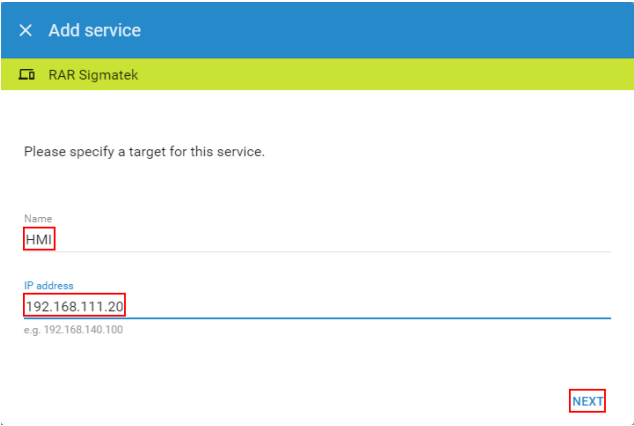

Figure 5.55 Setting the service target by IP address.
2. Click on the “Services” tab and click the “+” button (Figure 5.55).